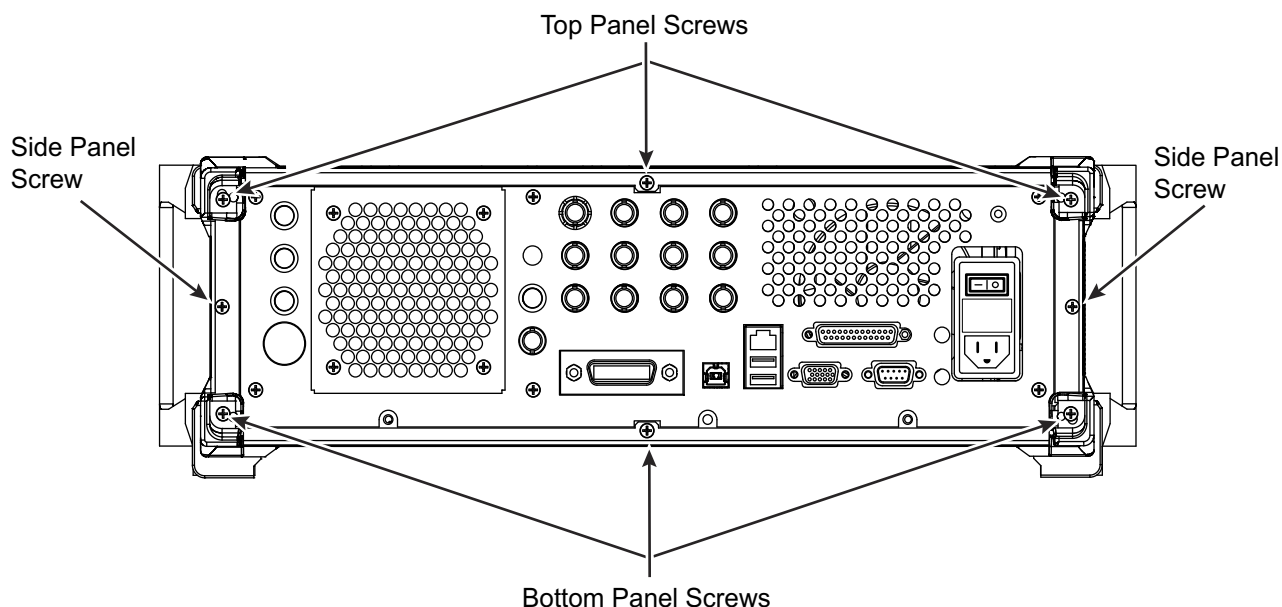

Figure 6-2. Rear Panel Retaining Screw Locations
9. Remove the screws that fasten the left and right side covers to the chassis. See Figure 6-2.
11. Remove the screw that fastens the right side cover to the chassis. See Figure 6-2.